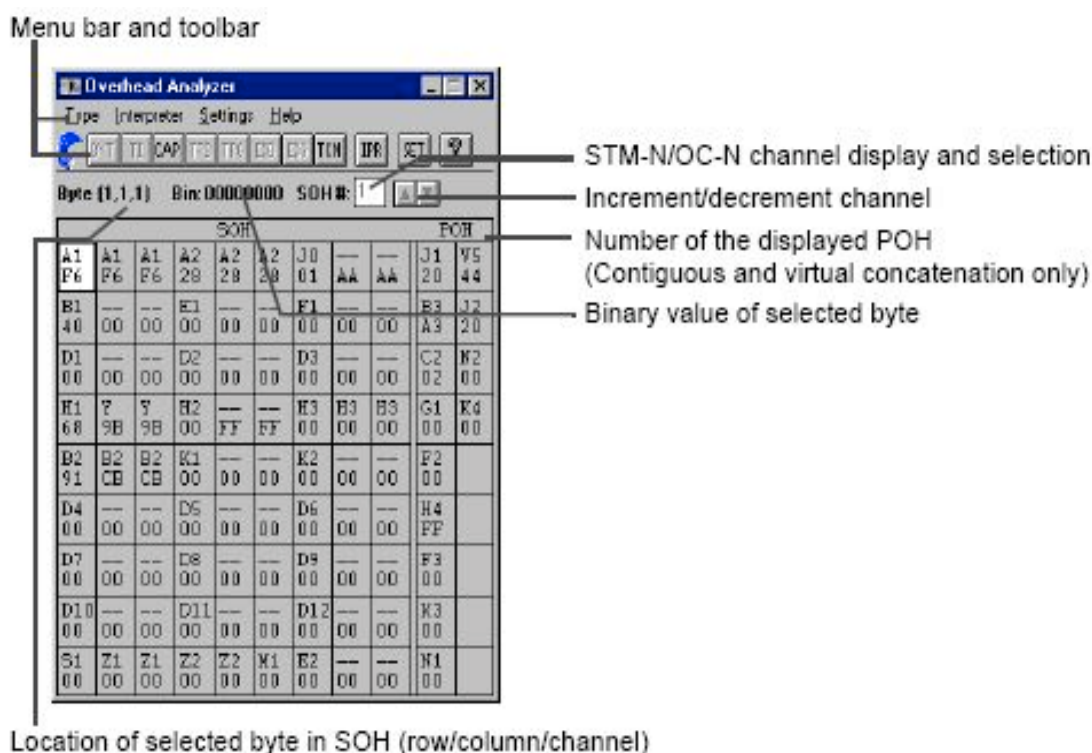

Fig.4-A Overhead analyzer main window
3. Click on 'Overhead analyzer VI' to activate. Main window as in fig.4-A appears:
Icon (button) wise functions of this menu or window are listed in fig.4-B